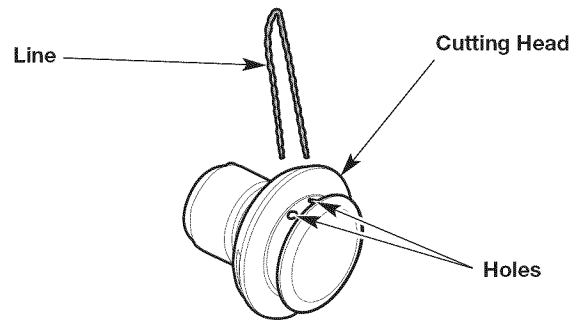
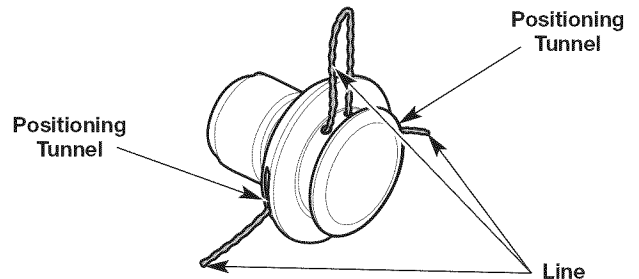

Fig. 21
Fig. 22
3. Insert the ends of the new trimming line into the holes in the cutting head (Fig. 21). Push the line through the holes until both ends protrude from the positioning tunnels (Fig. 22).